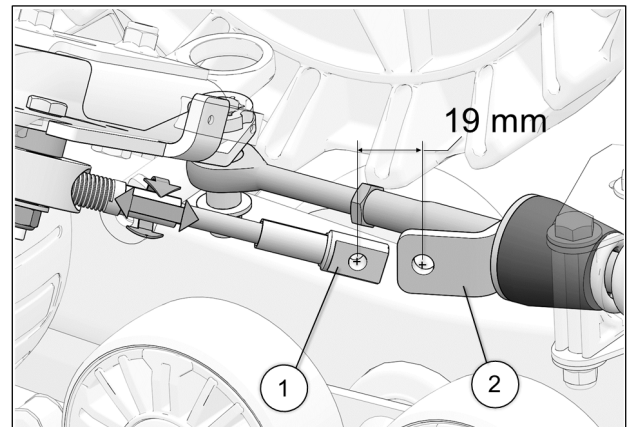

Fig. 25
14. Turn the vehicle's steering wheel to its maximum point of travel on the left. While maintaining pressure on the steering wheel, turn threaded rod to adjust length of cable. See Fig. 25
15. Position cable end hole (1) 19 mm [ $\frac{3}{4}$  in. ] short of support plate (2) mounting hole. See Fig. 25